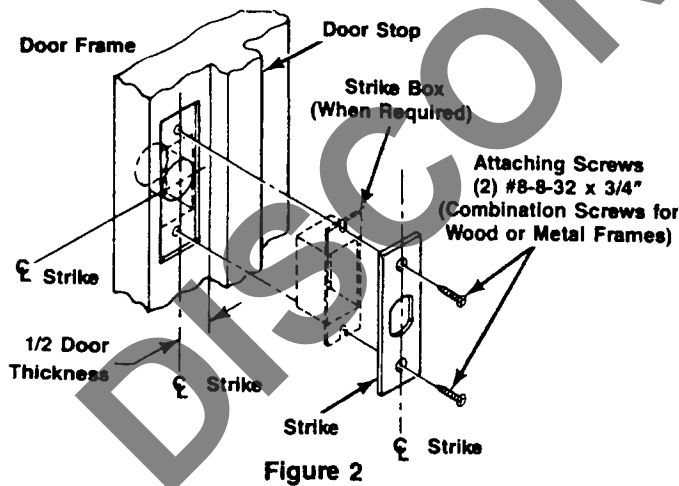

Figure 2
- To determine location of vertical centerline of strike, take half of door thickness (measured from door stop or silencer). Using strike as template, mark outline. Mark location of two attaching screws. (See Figure 2.)